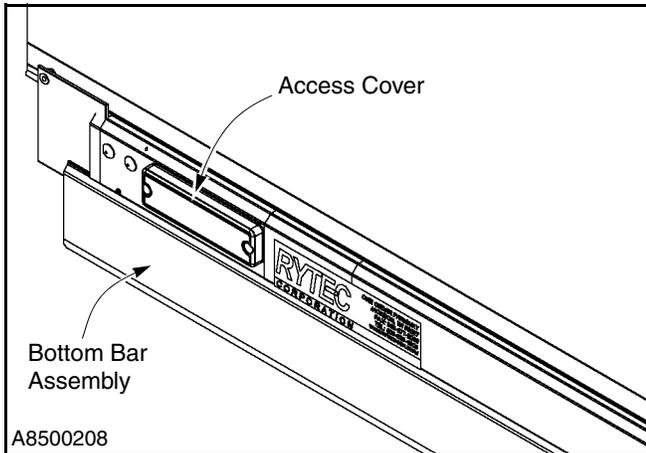

Figure 30
1. The reversing edge switch is located inside the bottom bar assembly, on the end opposite the drive motor. To inspect and adjust the switch, remove the access cover from the face of the bottom bar assembly. (See Figure 30.)